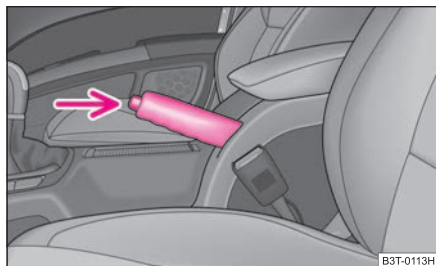

**Fig. 123 Centre console:
- Pull the handbrake lever up slightly **and at the same time** press in the locking button ⇒ fig. 123.